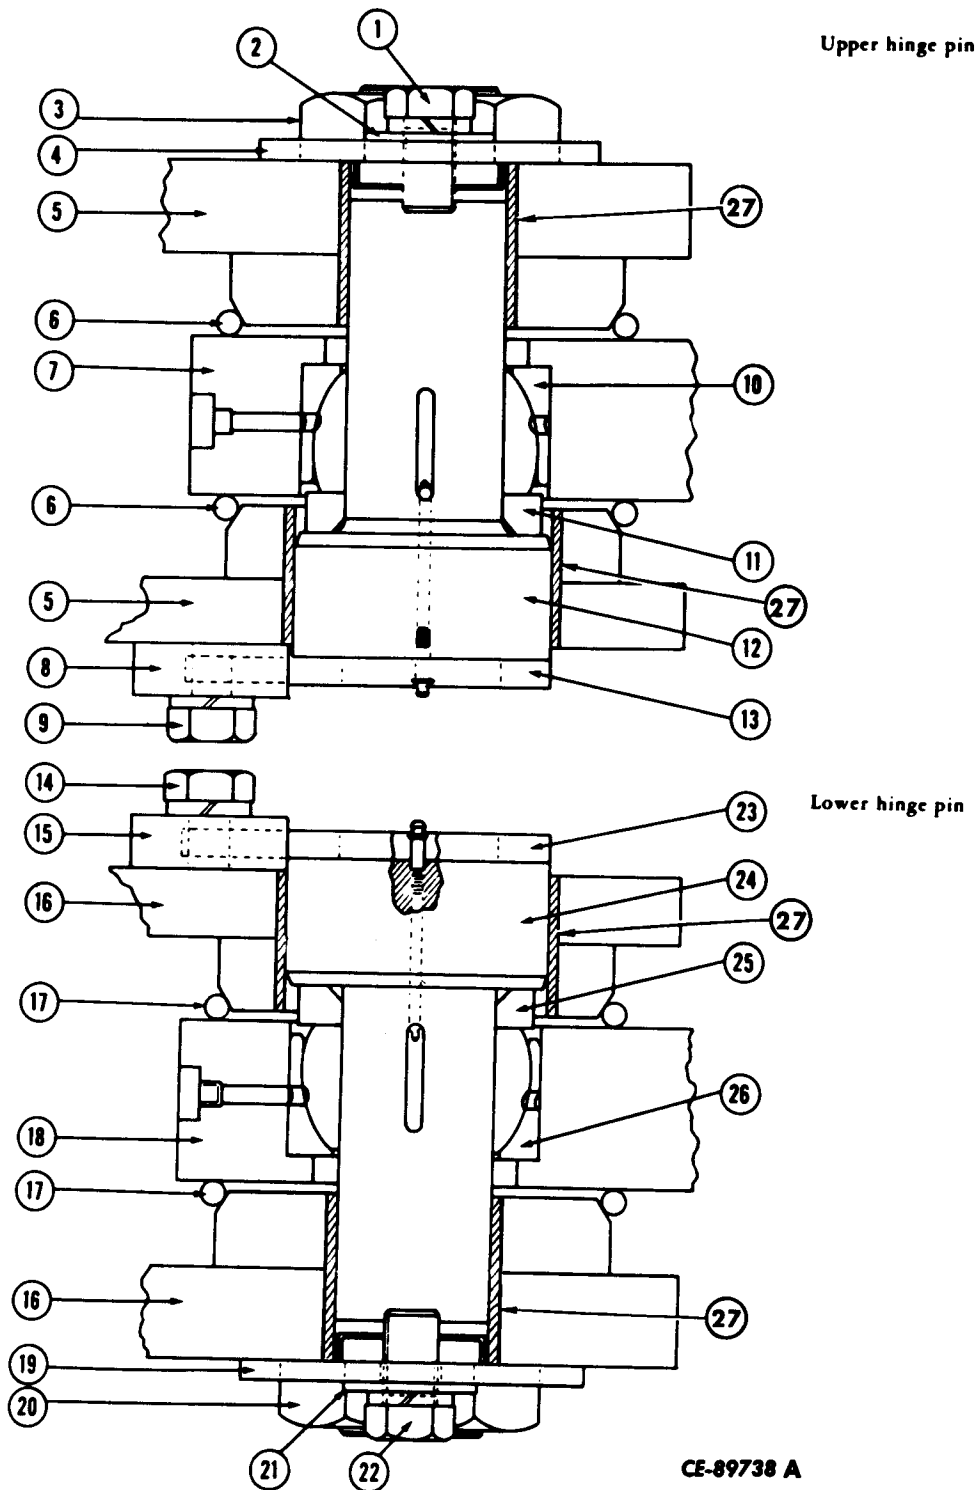

Figure 1-9
Adjust hinge spacing using top nut (3, Fig. 1-9) so that frame tongues (7, 18) are centered between rear frame ears (5, 16). Bottom nut (20) must be off during spacing adjustment.
Legend for Figure 1-9
Bring the upper pin lock (13, Fig. 1-9) in contact with block. Rotate cam (8) clockwise to contact pin lock and tighten cam bolt.
Rotate cam (8, 15, Fig. 1-9) clockwise to contact pin lock plate (13, 23).